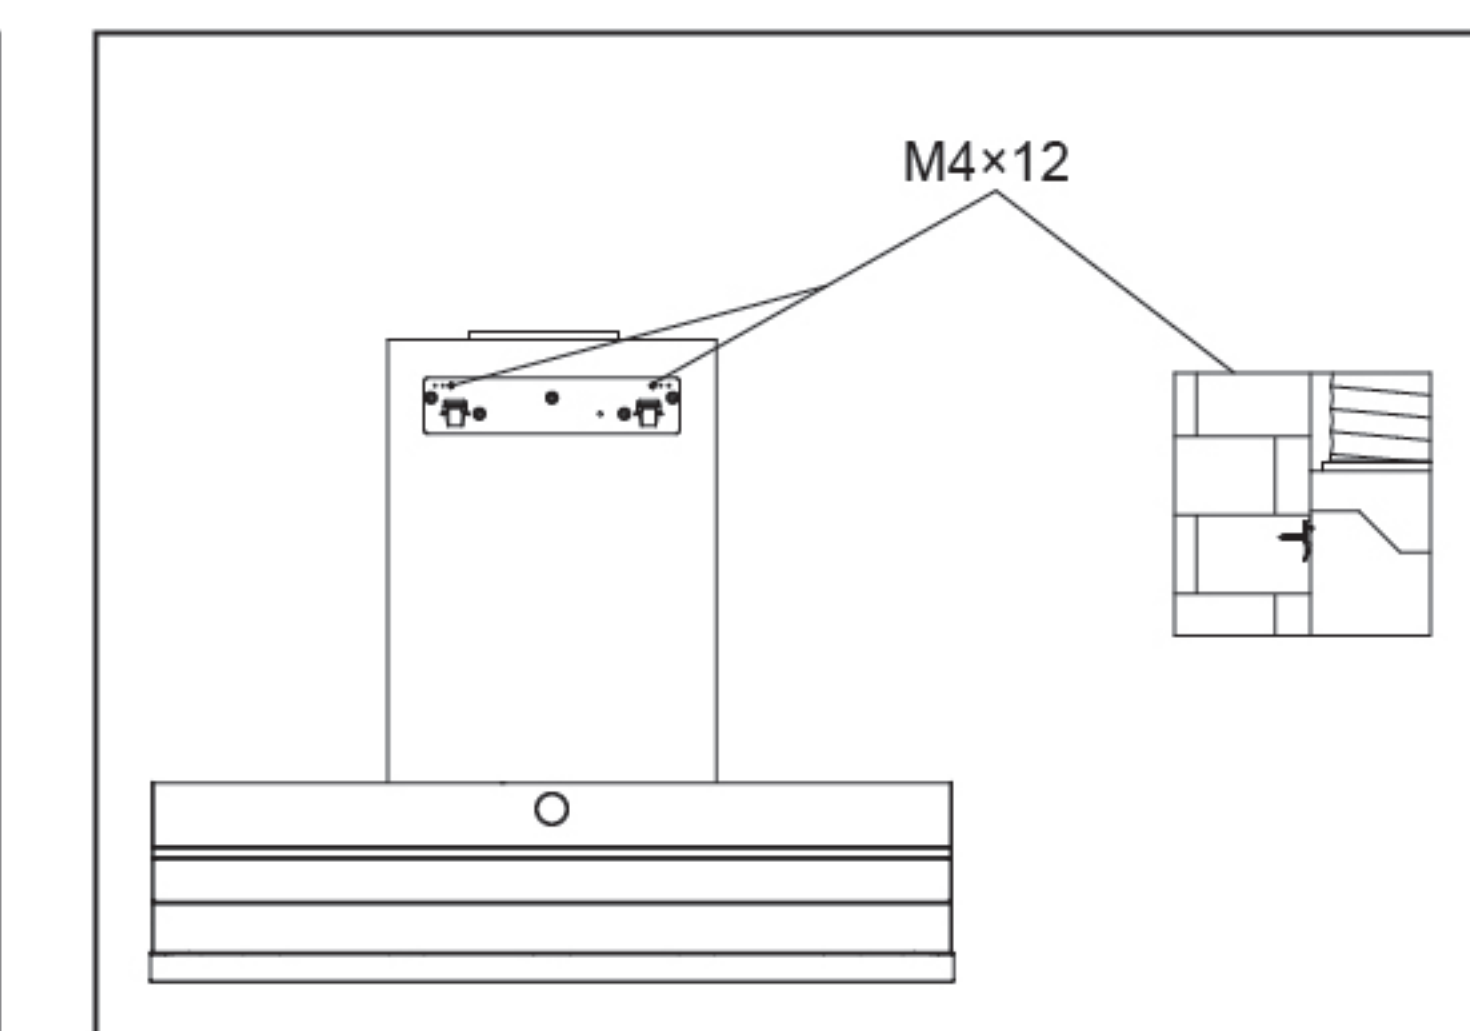

fig11
- Lift the main body, hang the hook holes at the upper part of the back of the range hood at the hooks, use the level ruler to confirm that the range hood is horizontal, and use the screws ($\text{M}4 \times 12\text{mm}$) to fix the fan frame and the hooks; (fig11)